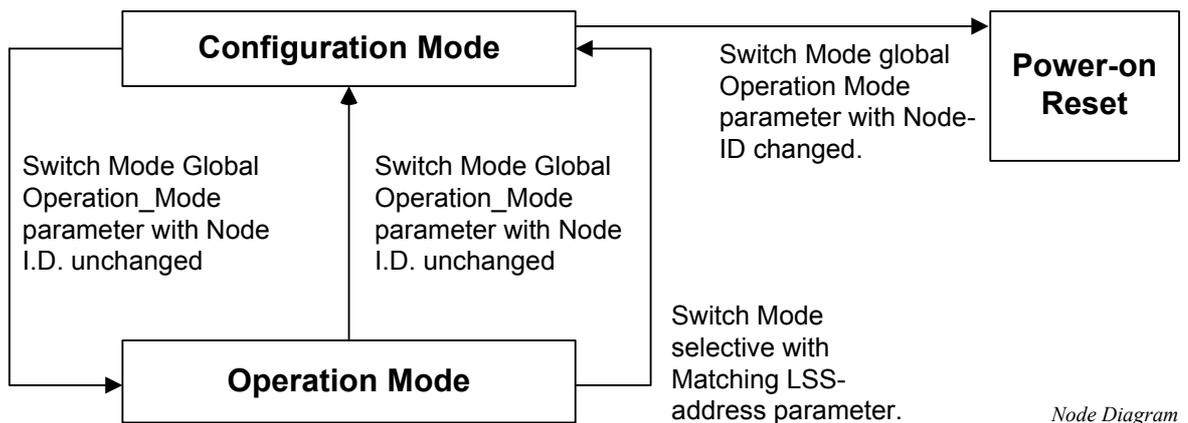

Figure 3-1 LSS Slave Modes and Switching Services
- **Switch Mode Services** provide a way to logically connect the LSS Master and LSS Slave(s) for configuration purposes. They change the LSS mode attribute of the LSS Slave (see the **Figure 3-1**).